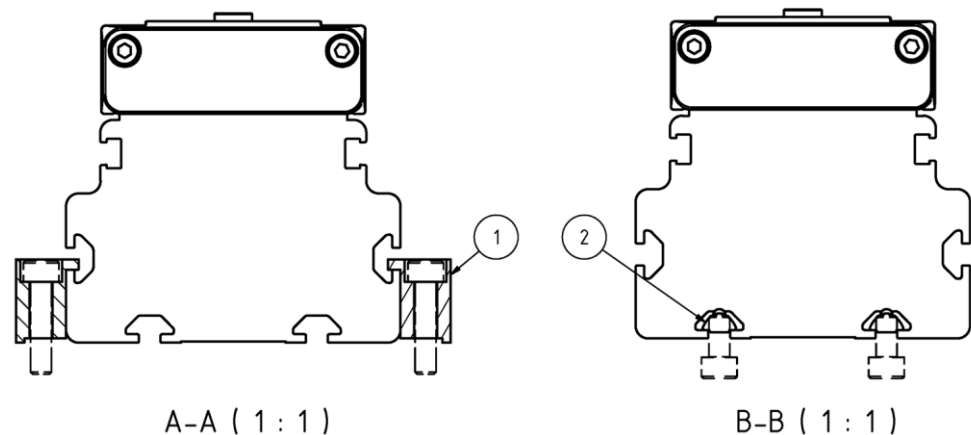

Figure 1: installation options
- ◆ For the installation of the lateral grooves, two toe clamps are optionally available (please refer to Figure 1, Pos. 1). For the installation of the grooves on the underside, two slot nuts are optionally available (please refer to Figure 1, Pos. 2). Please refer to accessories in the HLR catalogue.
- ◆ Either two toe clamps (left and right on the carrier profile) or 4 slot nuts (two for each lower groove) are required for each fastening point, see Figure 1.